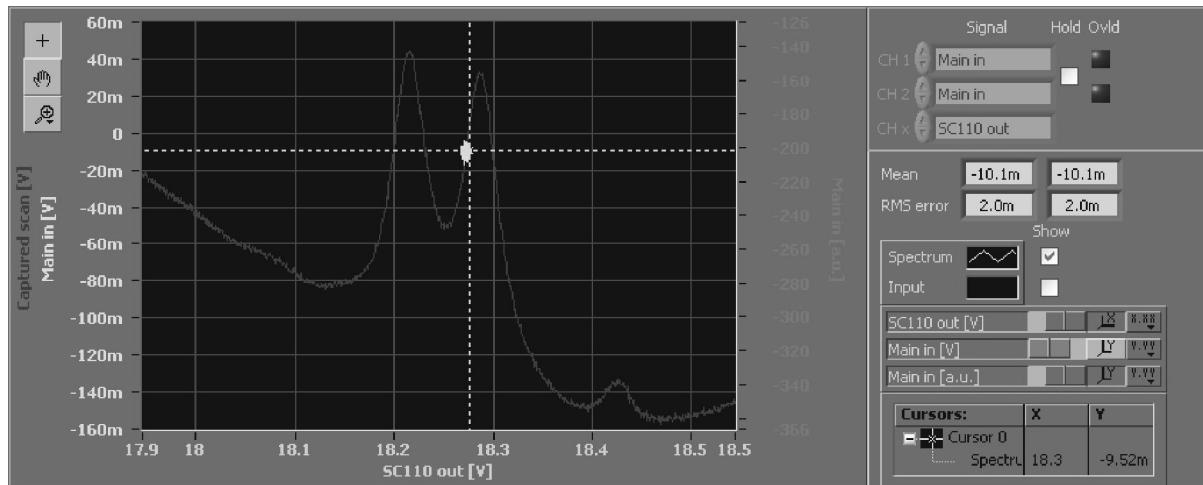

Figure 45 AutoLock Display while the Lock is active.
20. After some time the yellow trace disappears and a scatter plot is left which indicates both the input signal (y-axis) and the current output of the **PID 2** which in this case coincides with the scan (see Figure 45) on the x-axis. The calculated rms deviation from the setpoint value displayed in the right panel can be used to optimize the lock.